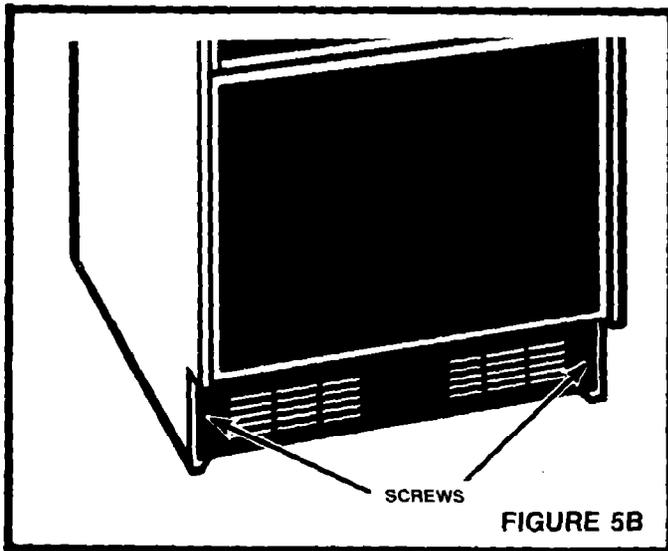

FIGURE 5B
- 4 Remove lower grille assembly. (See Figure 5B)